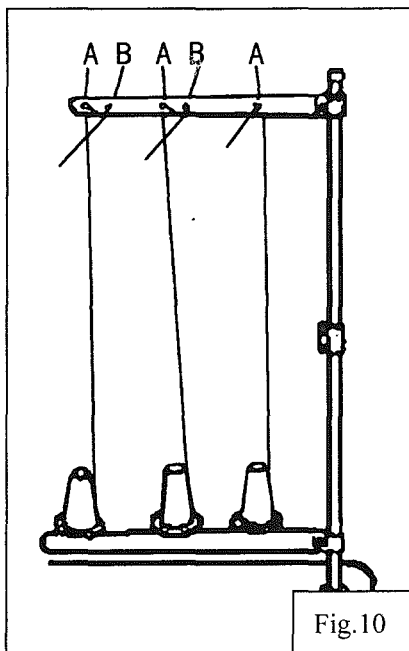
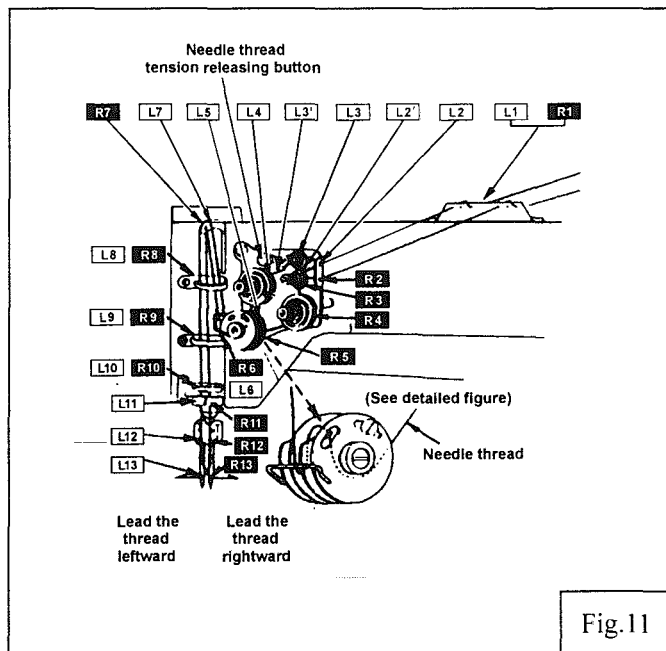

Fig.10
Fig.11
4) How to route the upper thread (Fig.10, Fig.11):
Note: when thin slippery thread (polyester thread for example) is used pass the thread through thread guide B as show in Fig.10
B With the take-up lever located at the upper most position, pass each thread in the order in Fig.11.